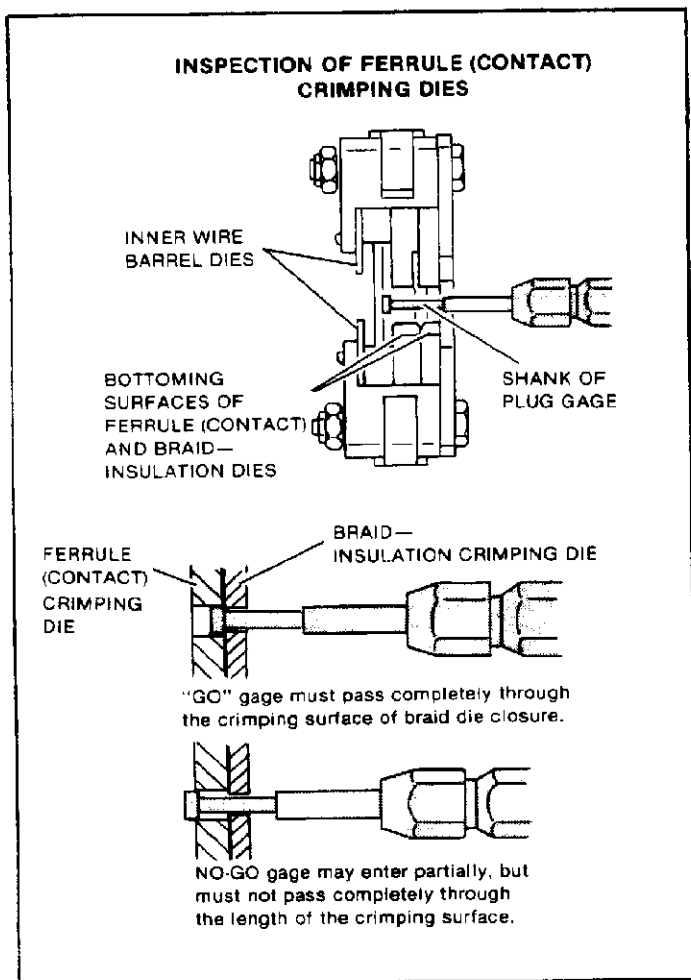

Figure 15
- To use this gage, open crimping dies and locate end of gage member in the area between inner wire barrel dies and ferrule (contact) dies. Shank of member will be located in the braid-insulation die closure. See Figure 15.
- With crimping jaws bottomed, check ferrule (contact) crimp die closure using the proper plug gage. Hold gage in straight alignment with tool and carefully try to insert, without forcing, the GO member, then the NO-GO member. See Figure 15. The GO member must pass completely through the crimp die closure.